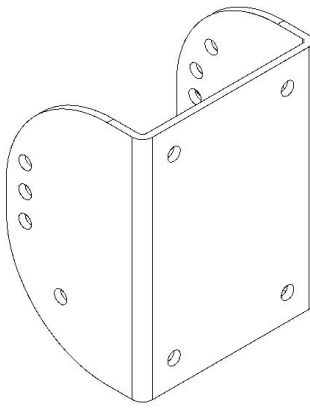

Figure 2
The loudspeaker bracket must be removed from the main bracket before mounting the pole bracket to the pole. The loudspeaker bracket is shown separately in Figure 2 below.
Mount the pole mount section (see Figure 4a below) of the bracket to the pole at the desired height on the pole. The loudspeaker bracket shown in Figure 2 should be removed prior to hanging the pole mount section. The bracket is attached to the pole using BAND-IT stainless steel bands. **DO NOT SUBSTITUTE bands of other materials or other widths! There are SIX slots on each side of the pole bracket for bands. ALL SIX LOCATIONS MUST BE USED.**
1. The loudspeaker bracket (Figure 2) should be attached to the loudspeaker's U-Bracket (ONE.SL12 or ONE.SL15's U-Bracket) only using the supplied stainless steel bolts and washers. DO NOT SUBSTITUTE ANY PARTS.